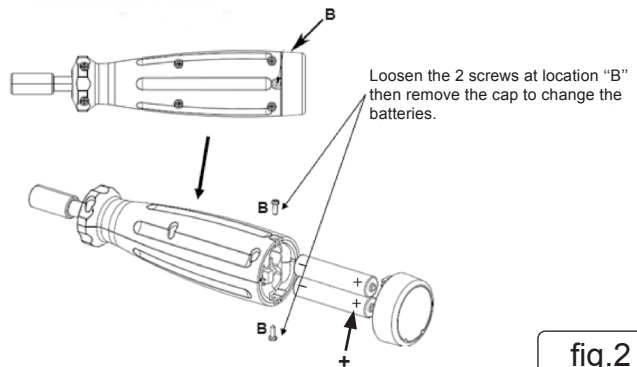

fig.2
- 4.1.2. Unscrew the 2 screws at location 'B'. See (fig.2). Carefully remove end cap from screwdriver handle.
- 4.1.3. Insert both batteries ensuring the polarity of the battery is the correct orientation in the battery compartment. See (fig.2).
If the battery is empty, the indicator on the display will show , an entirely white battery symbol. The batteries must be replaced in order to guarantee full function and accuracy. See fig.2.
- ✓ If it is anticipated that the screwdriver will be out of use for a time, the batteries should be removed (fig.2).
BATTERY REMOVAL: SEE FIG.2.